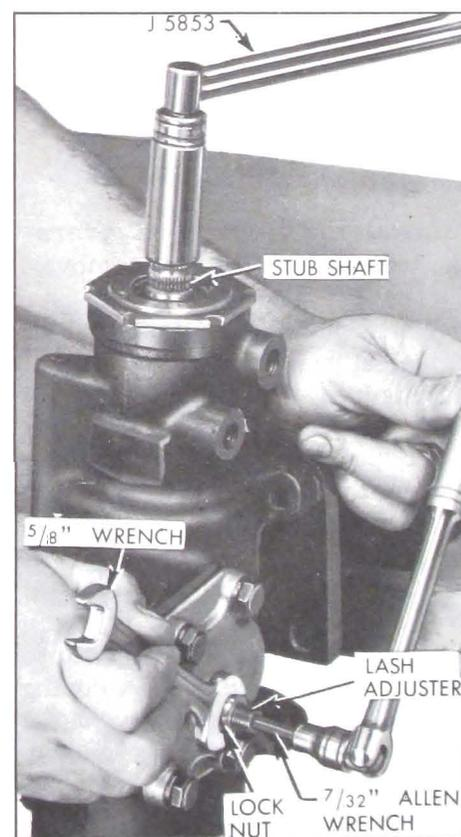

Figure 8-33—Pitman Shaft Over Center Adjustment
5. If readings are within specifications, check and adjust if necessary, pitman shaft "over-center" adjustment. Reading on torque wrench should be 4 to 8 inch pounds higher than was obtained in Step 5. See Figure 8-33. This reading is taken when rotating stub shaft through "high-point" range with lash adjuster nut tight. Torque required should not exceed 18 inch pounds.